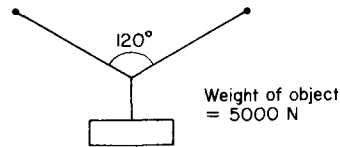

Fig. 2.30
27. Fig. 2.30 shows an object being supported on two ropes. What is the force in each rope?